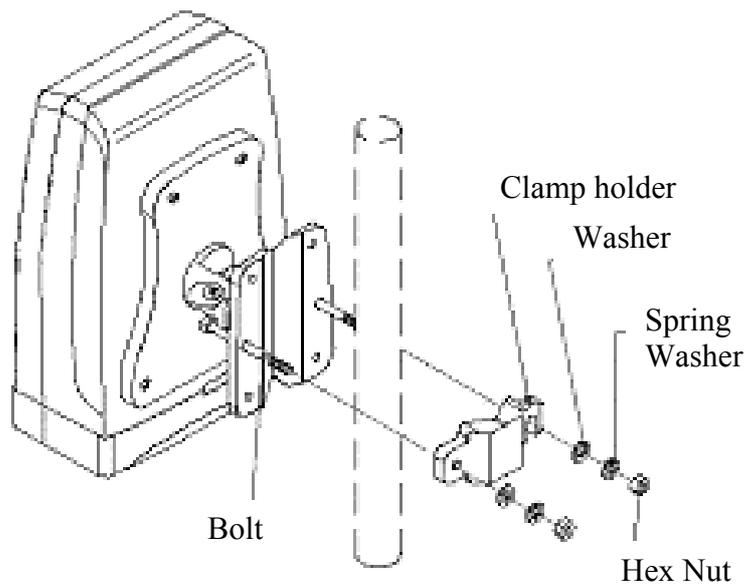

Figure 12-8: IDR pole mounting components
1. Offer up the IDR assembly to the pole as shown in Figure 12-8.